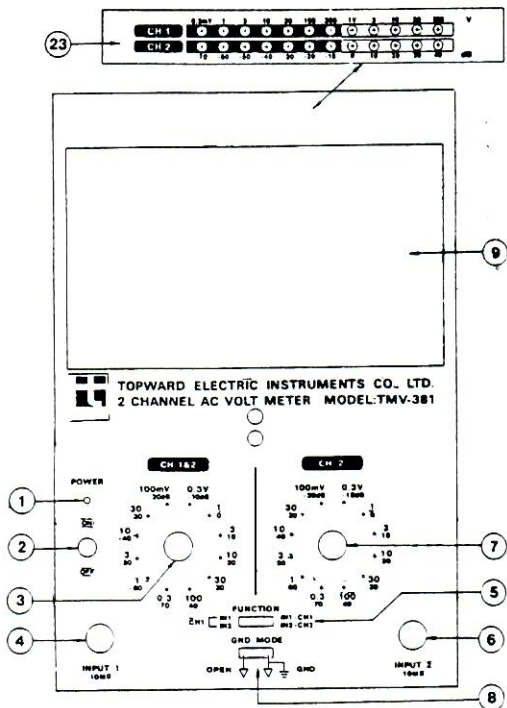

Figure 2 - Front Panel View
**Front panel (see Figure 2)**